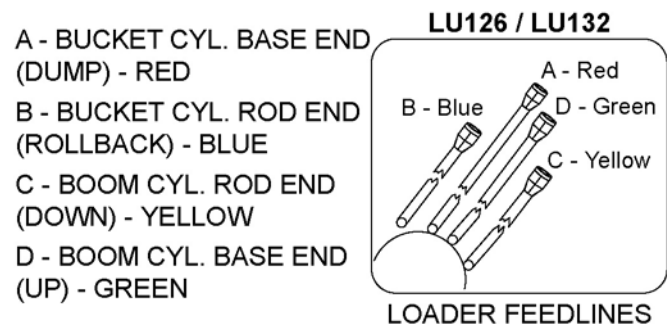

Figure 35. Loader Feedline Connection
2. Attach loader feedline hoses to the steel feedlines on the loader boom. See Figure 35.